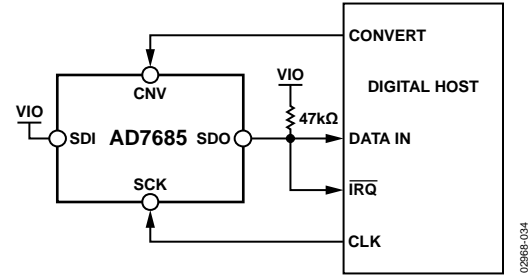
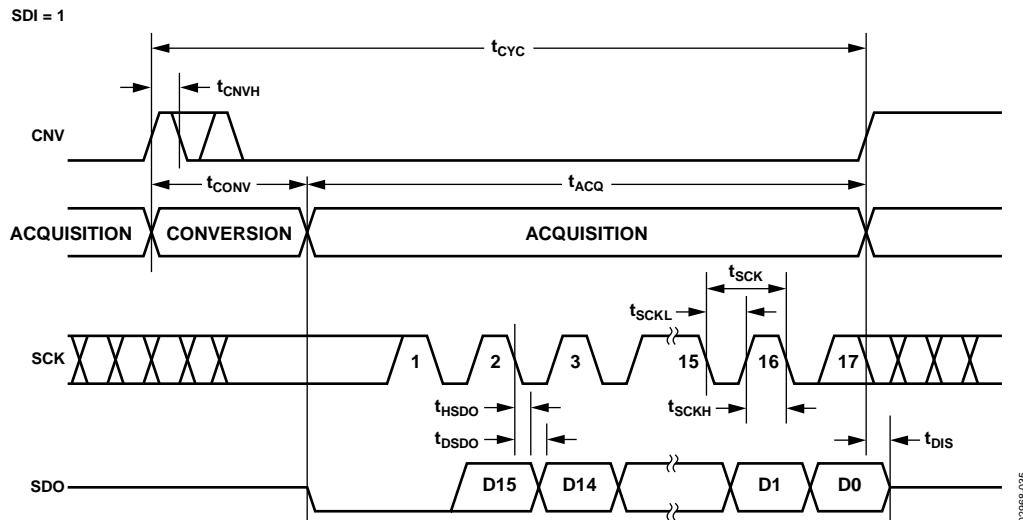
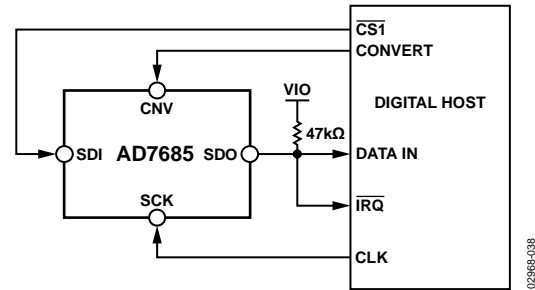
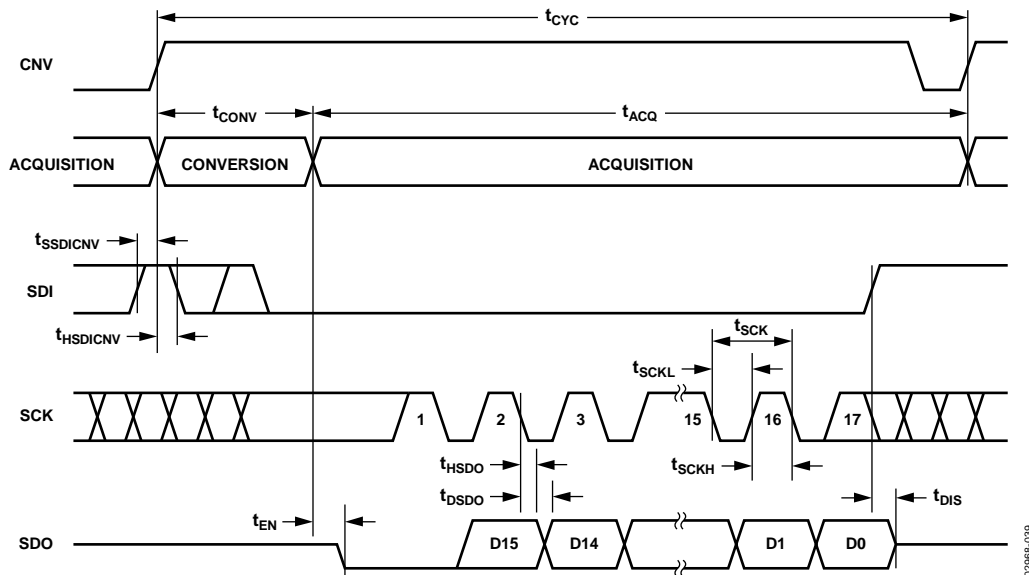

Figure 36. $\overline{\text{CS}}$ Mode 3-Wire with BUSY Indicator Connection Diagram (SDI High)
Figure 37. $\overline{\text{CS}}$ Mode 3-Wire with BUSY Indicator Serial Interface Timing (SDI High)
Figure 40. CS Mode 4-Wire with BUSY Indicator Connection Diagram
Figure 41. CS Mode 4-Wire with BUSY Indicator Serial Interface Timing
- In the \overline{CS} mode, if CNV or SDI is low when the ADC conversion ends (see Figure 37 and Figure 41).
The connection diagram is shown in Figure 36, and the corresponding timing is given in Figure 37.
The connection diagram is shown in Figure 40, and the corresponding timing is given in Figure 41.